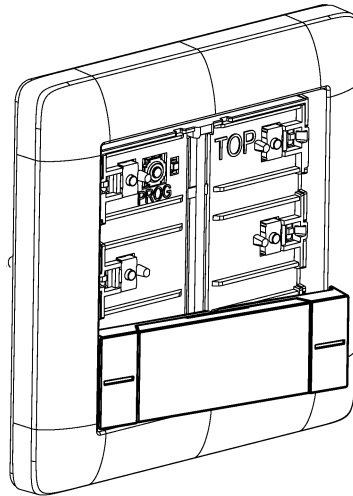

Figure 6: Slide the side of the rocker into place
- Slide the side of the rocker into place (see figure 6).